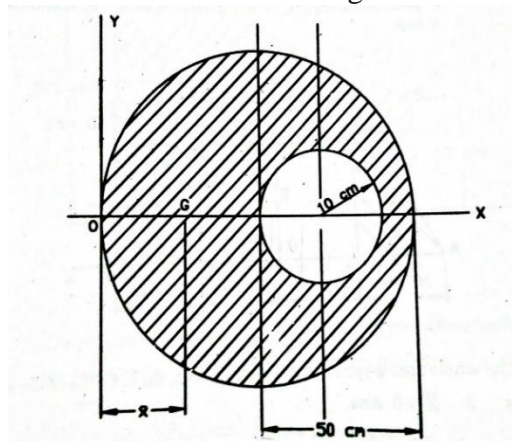

Fig.17
7. Determine the centroid of the remaining portion of a circular sheet of metal of radius 50cm when a hole of 10cm radius is taken out from the Centre of the circular disc along its horizontal diameter as shown in fig.17 [10 M]